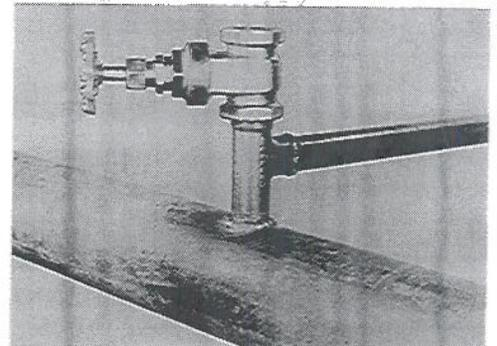

FIGURE 10
1. Attach gate valve to top of Tee. **Figure 10.** (If installing a $\frac{3}{4}$ " Service Tee, first attach the 1 $\frac{1}{4}$ " x 1" bushing to the tee and then attach the gate valve to the bushing.)